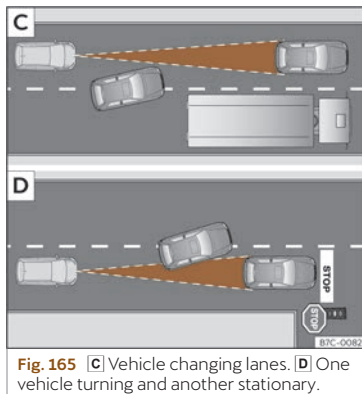

Fig. 165 [C] Vehicle changing lanes. [D] One vehicle turning and another stationary.
- Vehicles that move into your lane, a short distance from your vehicle >>> **Fig. 165** [C].
The ACC may not react to stationary vehicles. If, for example, a vehicle detected by the ACC turns or moves over and there is a stationary vehicle in front of it, the ACC will not react to the second vehicle»» **Fig. 165** .